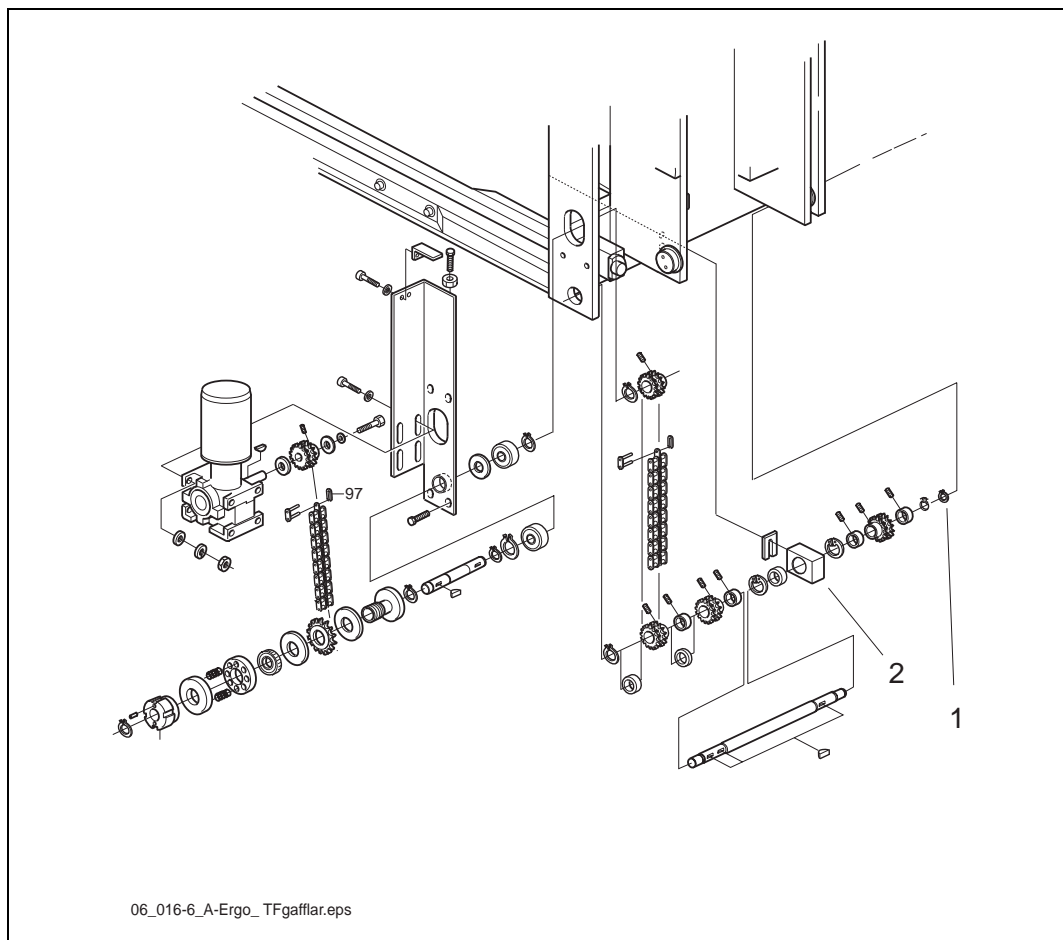

Figure 6.34 Outer circlips for side bearing and intermediate bearing
13. Loosen the intermediate bearing, pos. 2 figure 6.34. Drive the shaft to one side so that the side bearing can be pressed out of the fork carriage. Remove the bearing and lift the shaft out from the fork carriage.